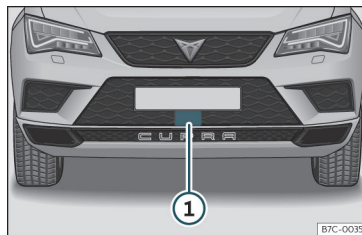

Fig. 211 On the front bumper: radar sensor.
With the vehicle stationary, switch off the engine and start it up again. Check the radar sensor visually >>> Fig. 211  (for dirt, ice or knocks). If it is still unavailable, refer to a specialised workshop to have the system inspected.
A radar sensor is installed on the front bumper to determine the traffic situation >>> **Fig. 211** ①.
This message will be displayed to the driver if the radar sensor's vision is impaired due, for example, to leaves, snow, heavy fog or dirt. Clean the sensor >>> **Fig. 211.**